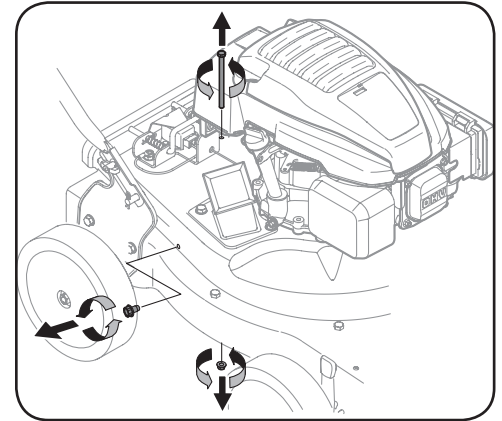

Figure 7-3
5. Remove self tapping screw on right side of unit that attaches to the flail screen. It may be necessary to remove the hose bracket hanger to get access to the screw. See Figure 7-3.
6. Remove hex screw on top of rear housing near mounting bracket and the flange lock nut that secures flail screen. See Figure 7-3.